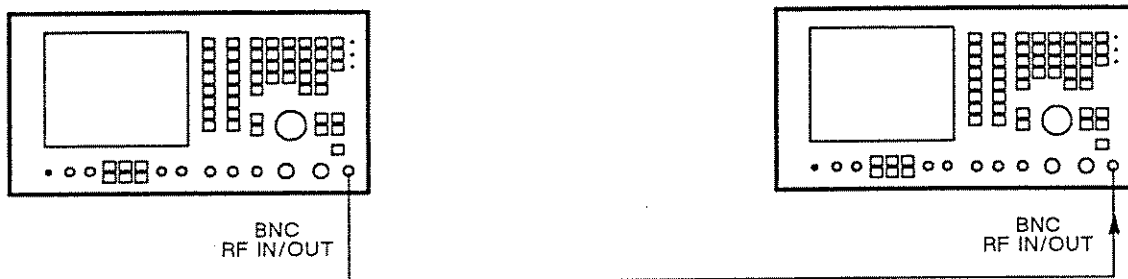

Fig. 6-20 Test equipment connections for sequential tones
- (1) Connect the RF IN/OUT BNC socket of the 2955B test instrument to the RF IN/OUT BNC socket of the 2955B under test. See Fig. 6-20.
- (2) On the 2955B under test, set the MODE to RECEIVER TEST, GEN FREQ to 100 MHz, LEVEL to 0 dBm, MOD to OFF and RF IN/OUT socket to BNC. Press the TONES, SEQUENTIAL and CCIR keys.
- (3) On the 2955B test instrument, set the MODE to TRANSMITTER TEST and RF IN/OUT socket to BNC. Press the TONES, SEQUENTIAL and CCIR keys.
- (4) On the 2955B under test, enter tone numbers 1 to 10 using the data keys. Press the TONE BURST key.
- (5) On the 2955B test instrument, check that the tones 1 to 10 appear with zero error.
- (6) Repeat (2) to (5) with the 2955B under test and the 2955B test instrument transposed.